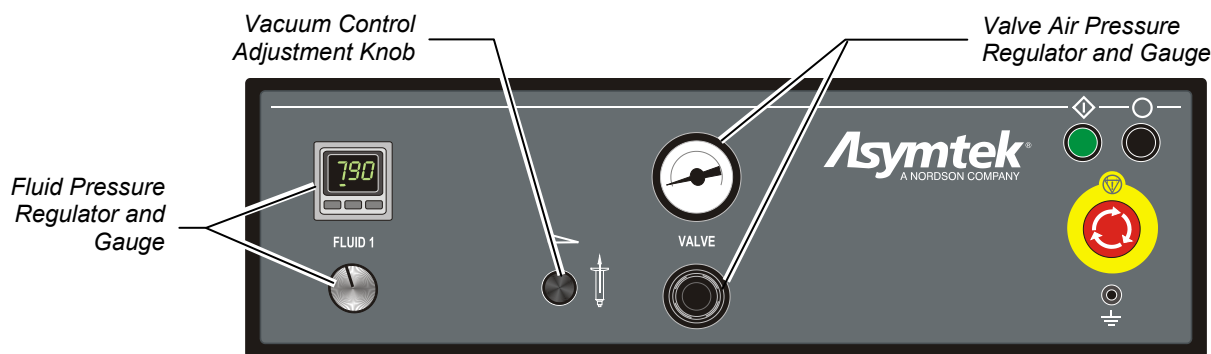

Figure 3-12 Front Control Panel
1. Locate the fluid and valve air pressure regulator adjustment knobs on the front control panel (Figure 3-12).